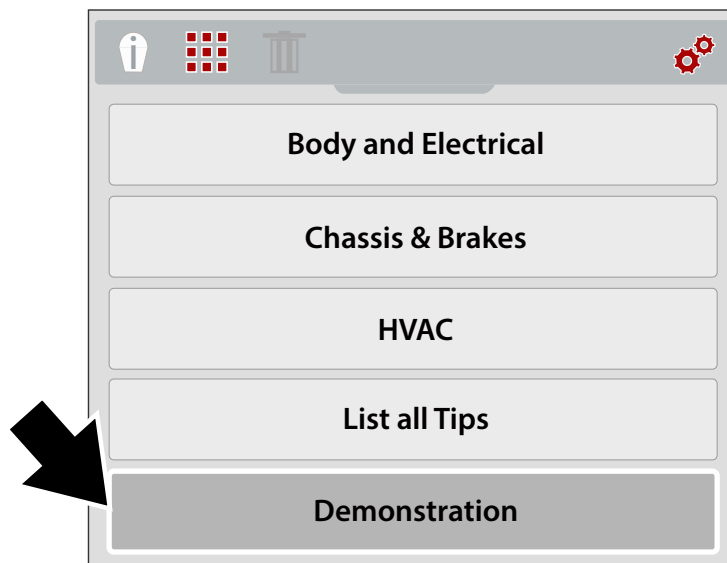

Figure 3-16
1. From the expert tips menu, select **Demonstration** (Figure 3-16). See Expert Tips on page 14 for navigation to the expert tips menu.